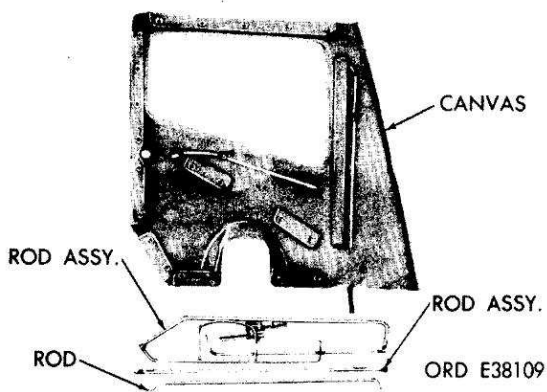

Figure 4-8. Left door canvas, rod assemblies, and rod.
b. Select the left hand door canvas and supporting rods as illustrated by figure 4-8.